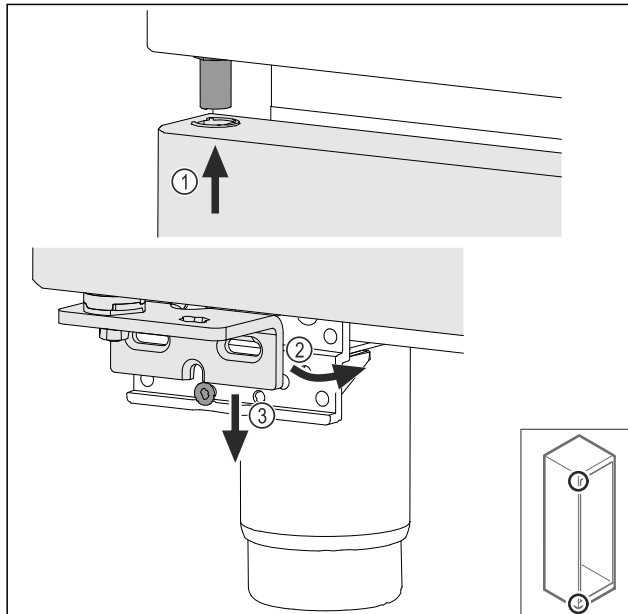

Fig. 43
- ▶ Feed in the door slightly tipped at the top Fig. 43 (1), align the door straight Fig. 43 (2) and fit the swap bearing blow screw Fig. 43 (3) at the bottom.